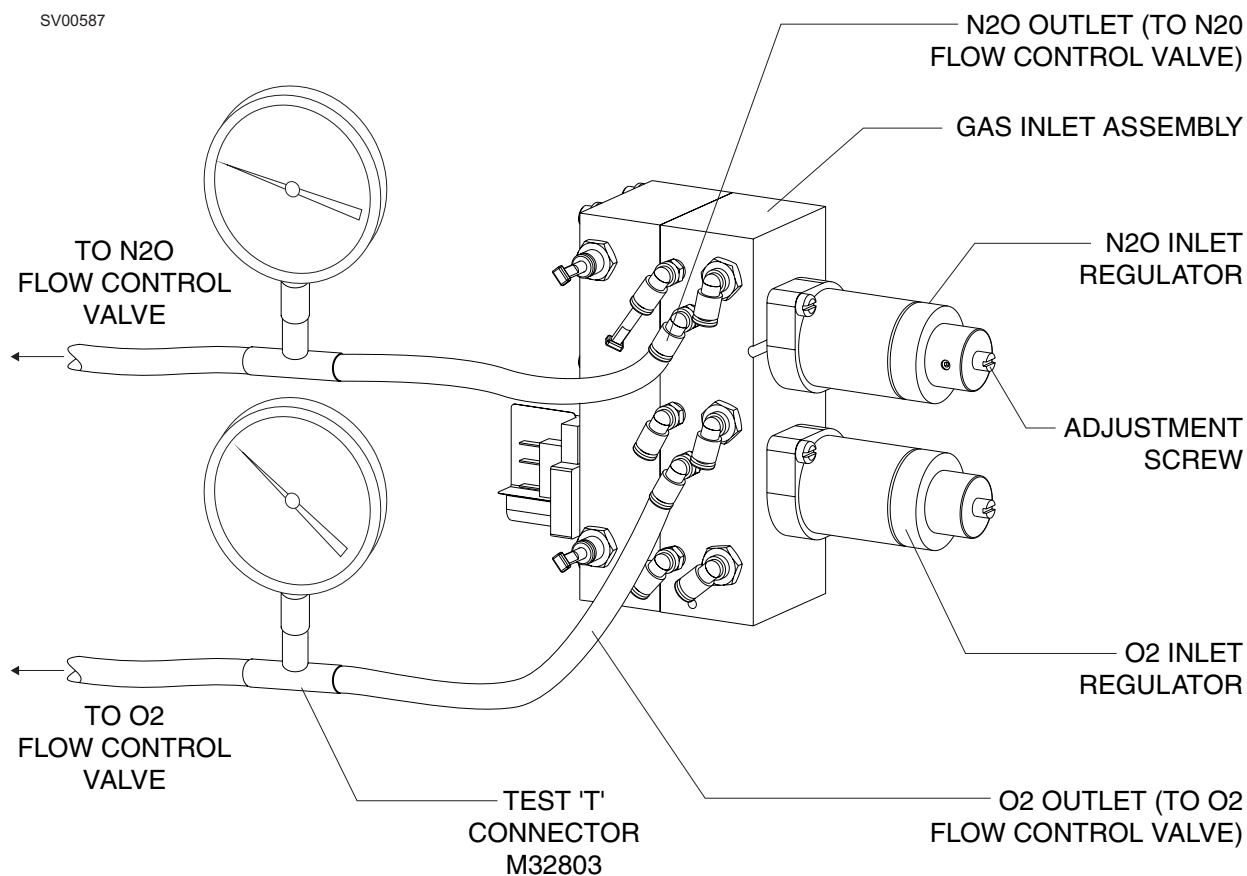

Figure 6-2. Setting Inlet Regulators
- 6.2.3 Remove the pneumatic hose from the O2 outlet of the gas inlet block and interconnect a digital manometer as shown in Figure 6-2.
- 6.2.12 Interconnect a digital manometer between the N₂O outlet connector and the hose removed in the previous step. See Figure 6-2.